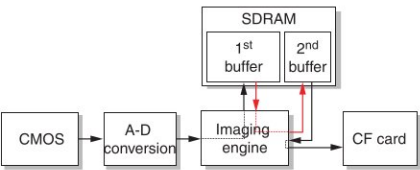

Fig. 2-10 Image-processing flow.
- \* Despite the EOS D60's higher number of pixels (more data per shot), the maximum continuous shooting speed of 3 fps is maintained and the maximum burst during continuous shooting is also maintained at the same level as the EOS D30's. To achieve this, the buffer memory was increased and the image processing that the EOS D30 executed during continuous shooting was eliminated (as shown by Fig. 2-10's red arrows, the image is processed in accordance with the stipulated image quality and parameters from the 1st to 2nd buffers). As a result, the maximum burst is always 8, limited only by the 1st buffer memory's capacity.